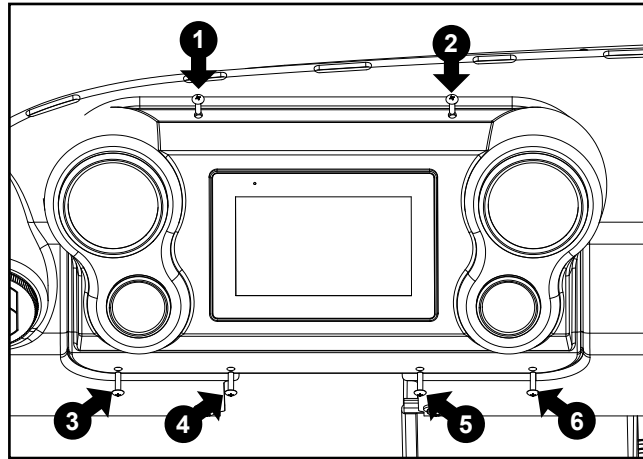

Figure 4
4. Remove the 6 mounting screws from the primary display pod assembly and discard (see Figure 4).